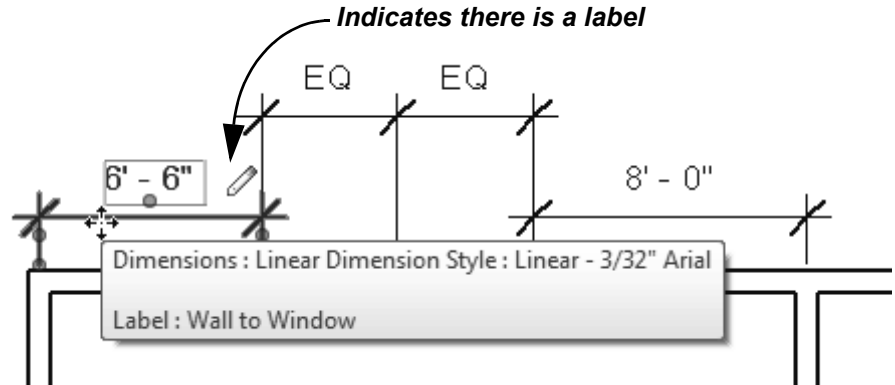

Figure 1–59
If you have a distance that needs to be repeated multiple times, such as the *Wall to Window* label shown in Figure 1–59, or one where you want to use a formula based on another dimension, you can create and apply a global parameter, also called a label, to the dimension.
- To apply an existing label to a dimension, select the dimension and in the *Modify | Dimensions* tab>Label Dimension panel, select the label in the drop-down list, as shown in Figure 1–60.